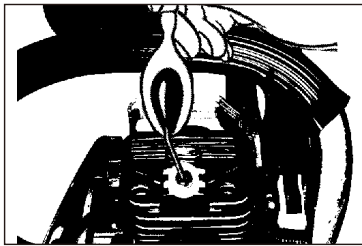

Fig. 19
5. Pour 1 teaspoon of clean 2-stroke oil into the combustion chamber. Pull starter rope slowly several times to coat internal components. Replace spark plug. (Fig. 19)